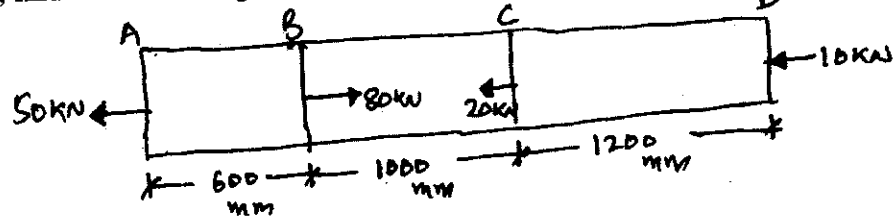

Fig. Q3 (b)
- b. A brass bar having cross sectional area of  $1000 \text{ mm}^2$ , is subjected to axial forces as shown in Fig. Q3 (b), find the total elongation of the bar  $E = 1.05 \times 10^5 \text{ N/mm}^2$  (12 Marks)